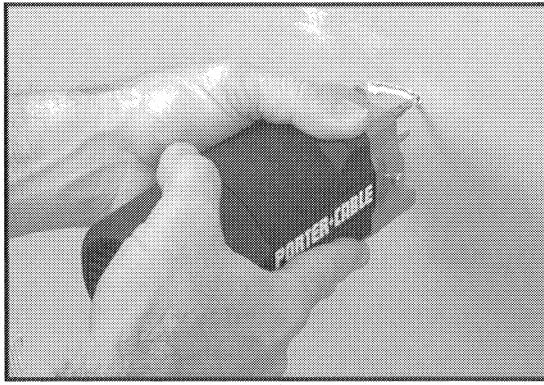

Fig. 5
2. **ALWAYS HOLD THE TOOL** by the motor housing **ONLY** (see Figs. 5 thru 9) to prevent accidental electrical shock resulting from cutting a live wire.
WARNING: Disconnect all electrical circuits within the area to be cut. Hold the drywall cut-out unit by the motor housing ONLY (see Figs. 5 thru 9) to prevent accidental electrical shock resulting from cutting a live wire.
5. Hold the Drywall Cutout Unit firmly with both hands and push the bit until the pilot is through the wall covering at the mark made in step 3 (see Fig. 5). Move the Drywall Cutout Unit to the right until you feel the bit contact the inside of the electrical box.